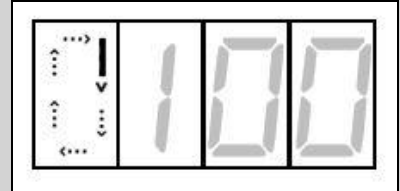

Figure 14
6. See **Figure 14** to confirm chlorine percentage is adjusted.